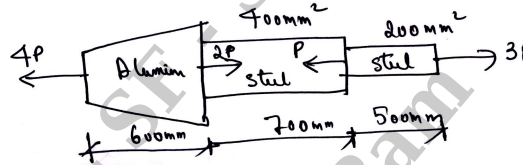

Fig.Q1(c)
- c. A round bar with stepped portion is subjected to the forces as shown in Fig.Q1(c). Determine the magnitude of force P, such that the net deformation in the bar does not exceed 1 mm. E for steel is 200 GPa, E for Aluminium is 70 GPa. Large end diameter and small end diameter of the tapering bar are 40mm and 12.5mm respectively.